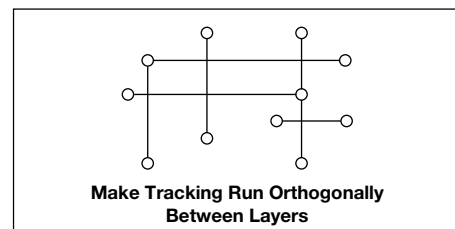

Fig. 5
- If possible, make tracks run orthogonally between adjacent layers (Fig. 5)